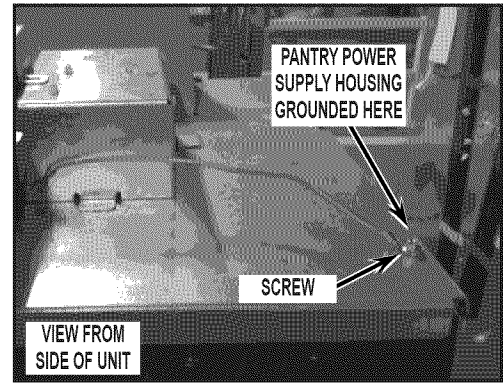

FIGURE 9
11. Remove screw from the top of condenser cover and use to attach ground wire from the pantry power supply housing as shown in *Figure 9*.